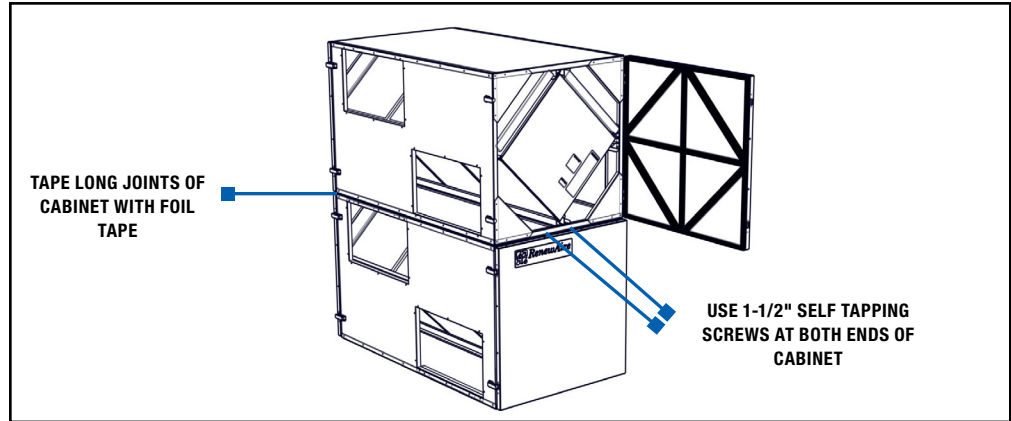

FIGURE 2.4.0 STACK AND SECURE CABINETS
1. Stack and align the cabinets. Make sure all Inlets and Outlets are visible! Open the doors. Drive 1-1/2" self-drilling sheet metal screws through the door frames of the upper cabinet into the lower cabinet. See Figure 2.4.0.